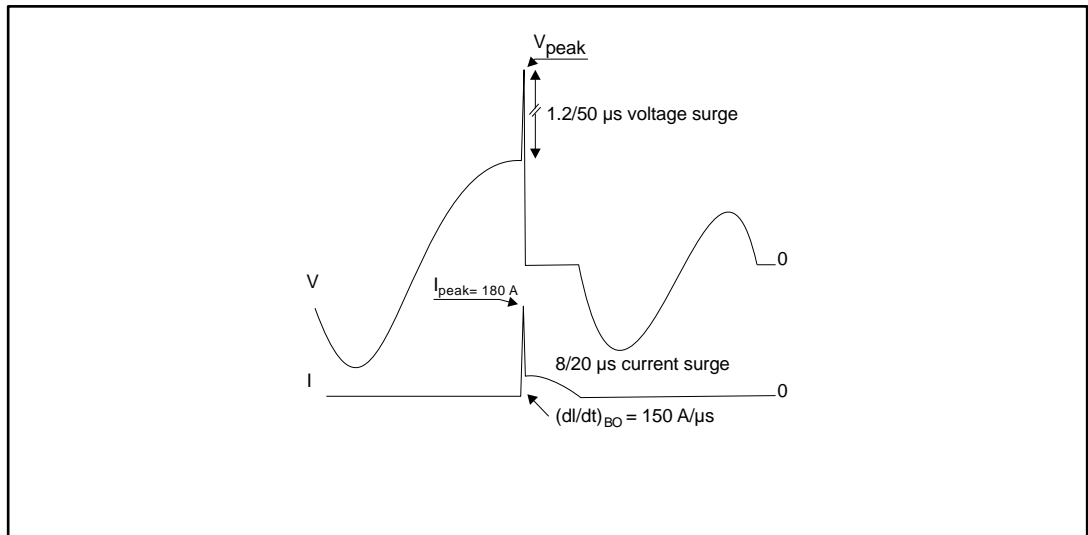

Figure 19: Overvoltage ruggedness test circuit for resistive and inductive loads for IEC 61000-4-5 standard)
(1)According to test described by IEC 61000-4-5 standard and test Fig 19.
The test circuit of Figure 19 represents the ACST1035-8FP application, and is used to stress the ACST switch according to the IEC 61000-4-5 standard conditions. With the additional effect of the load which limits the current, the ACST switch withstands the voltage spikes up to 2 kV on top of the peak line voltage. The protection is based on an overvoltage crowbar technology. The ACST1035-8FP folds back safely to the on state as shown in Figure 20. The ACST1035-8FP recovers its blocking voltage capability after the surge and the next zero crossing current. Such a non repetitive test can be done at least 10 times on each AC line voltage polarity.